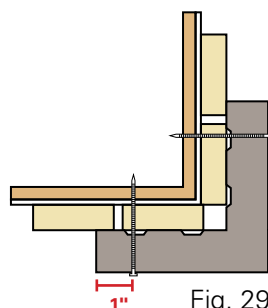

Fig. 29
- All Fraser Wood Siding Corners must be fastened using Fraser Wood Siding 3" Colour Matched Nails every 16" on center – approximately 3/4" – 1" from the edge of the moulding. (See Figure 29/30)